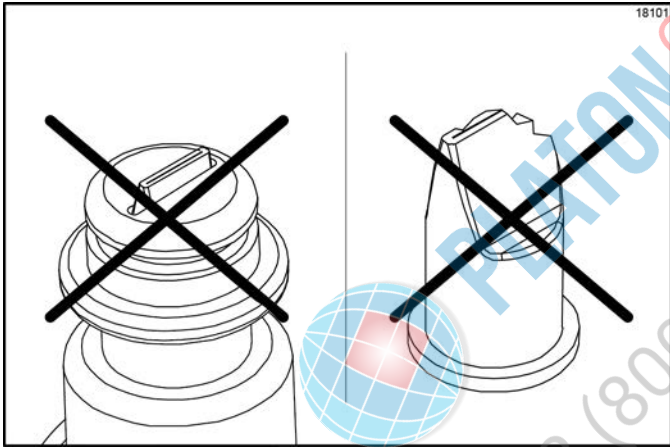

Figure 6-80
**Note:** Replace the duckbill valve if it is damaged or extends past the syrup nose fitting slot. (See Figure 6-80.)